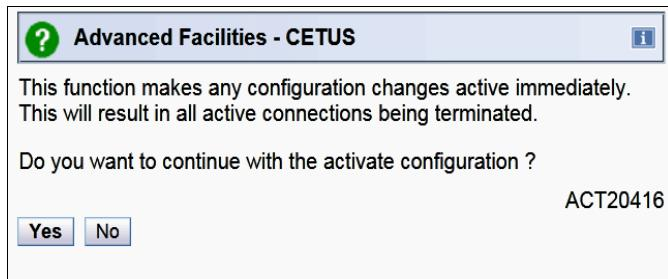

Figure 6-18 OSA/SF on the HMC: Confirm activation
14. The confirmation window shown in Figure 6-18 opens. Click **Yes** to continue.